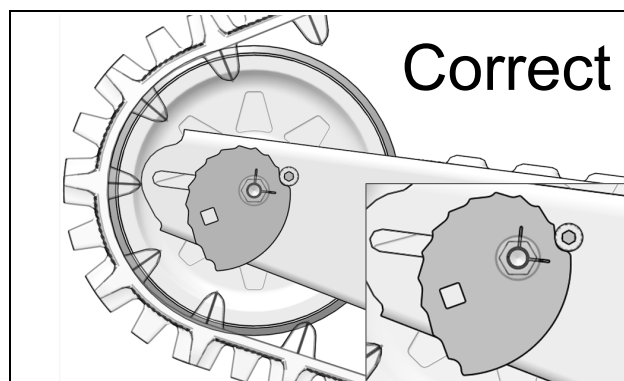
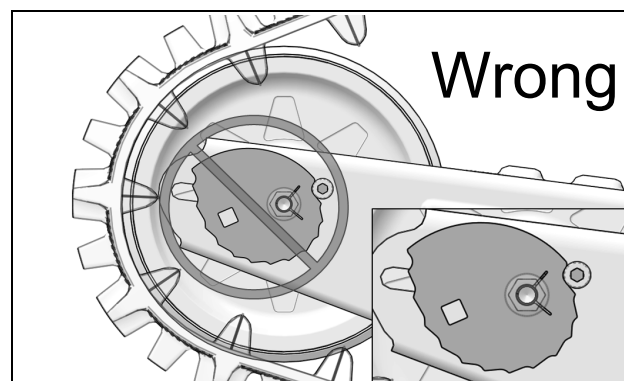

Figure 28
Figure 29
- Installation direction of Tensioner cams. Figure 28 and Figure 29.